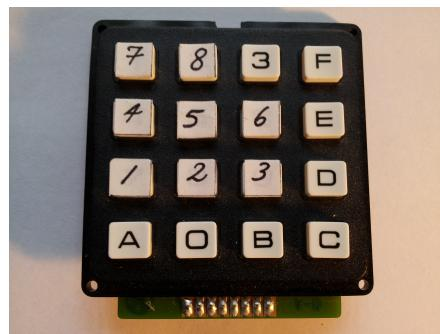
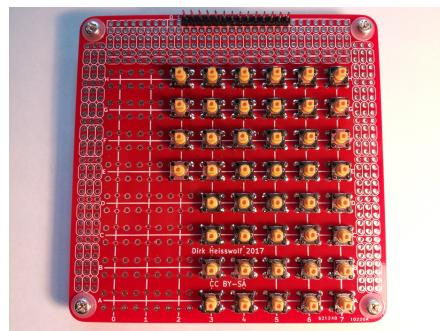

Figure 4: 4x4 matrix keypad by EOZ, with some key labels attached
Figure 5: Custom 8x6 matrix keypad
4. A matrix keypad. Standard 4x4 matrix keypads (Figure 4) work well but an 8x6 keypad (Figure 5) allows more functions to be added easily. Interfacing to each type of keypad is covered in Chapter 4. The 8x6 matrix keypad shown was designed by Dirk Heisswolf and manufactured by Seeed Studio. I have several 8x6 matrix keypad PCB's left (contact me at daniel.milutinovic@yahoo.com.au) and the files are available at <https://github.com/DanielMilutinovic/MC-II> if you would like to order them (Seeed Studio has a minimum order of 10 PCB's). If making the 8x6 matrix keypad you will need to solder 0.1" (2.54mm) male header pins and 44 push buttons to the PCB. I used Omron 6x6 tactile switches, part no. B3F-1052.